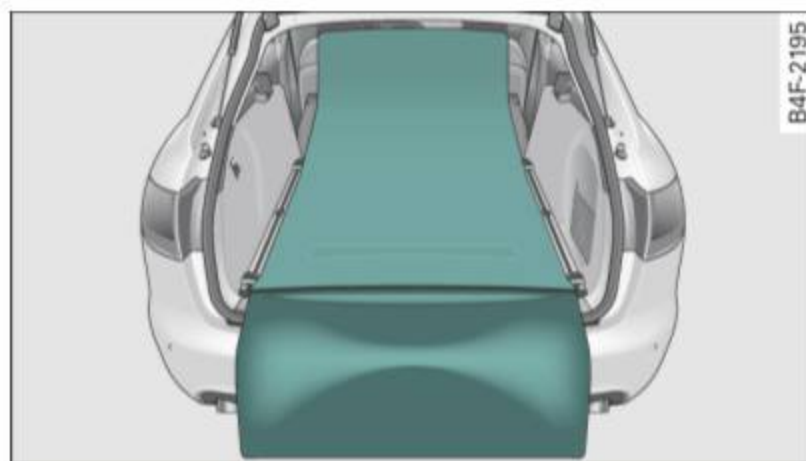

Fig. 89 Luggage compartment carpeting with seatback folded down: spread out over the bumper
- Lay the luggage compartment carpeting ⇒ *fig. 89* over the folded-down seatback.